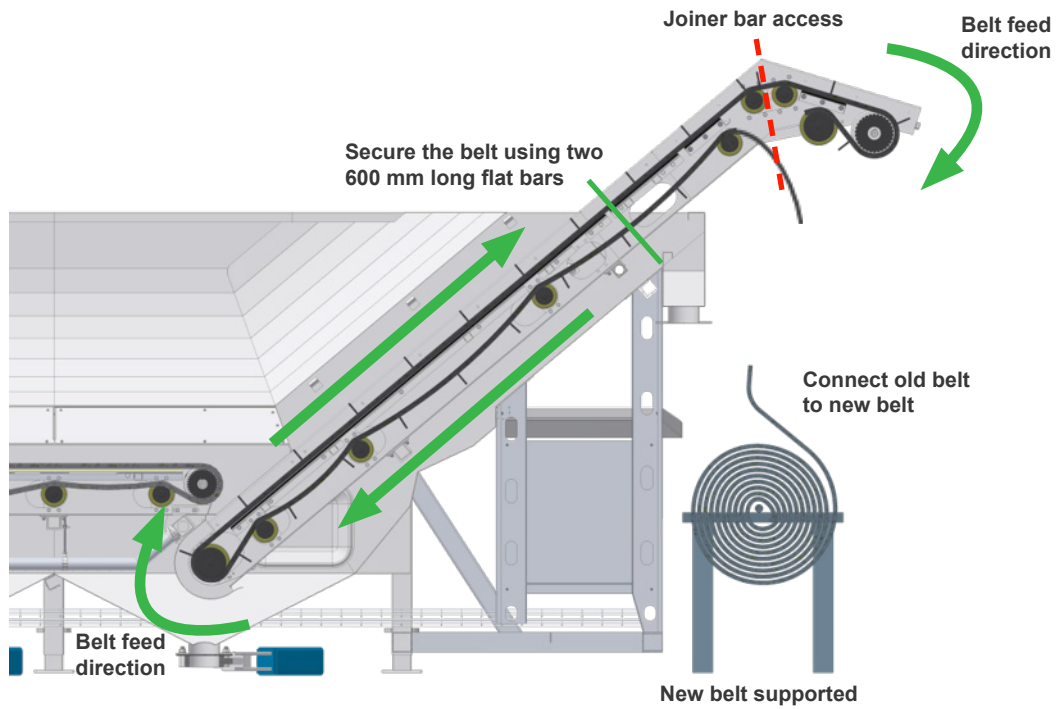

Figure 15 - Web belt replacement
8. Position the belt clip-join just behind the lower kink in the gooseneck assembly (Figure 15).
13. Secure the belt from both above the elevator frame and below to stop it from 'running away'. This can be done by using two 65 x 6 mm flat bars placed through the belt near the outer bands, above one of the elevator cross members, behind the clip-join (Figure 15).
18. Leave the lower section of the belt in place above and below the elevator, and feed the top end out over the head drum until it is hanging down from the snub or return rollers (Figure 15).